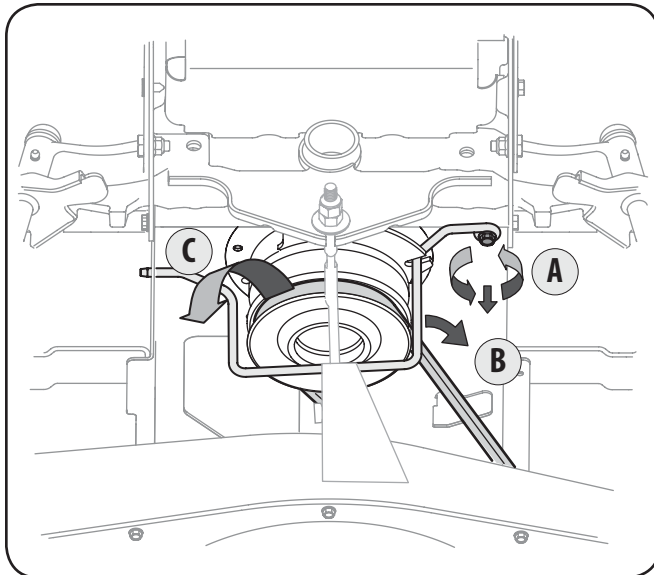

Figure 7-5
2. Carefully remove the belt from around the electric PTO clutch. See Fig 7-5. NOTE: If there is too much tension on the belt,